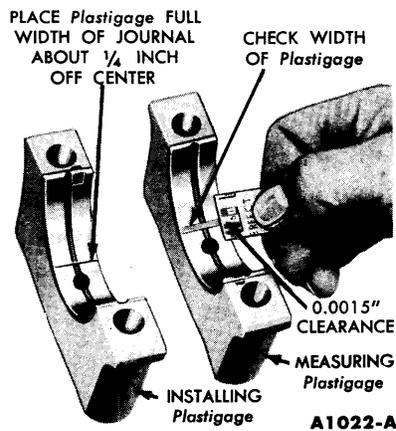

FIG. 58—Installing and Measuring Plastigage—Engine In Chassis
9. Place a piece of Plastigage on the bearing surface the full width of the bearing cap and about ¼ inch off center (Fig. 58).